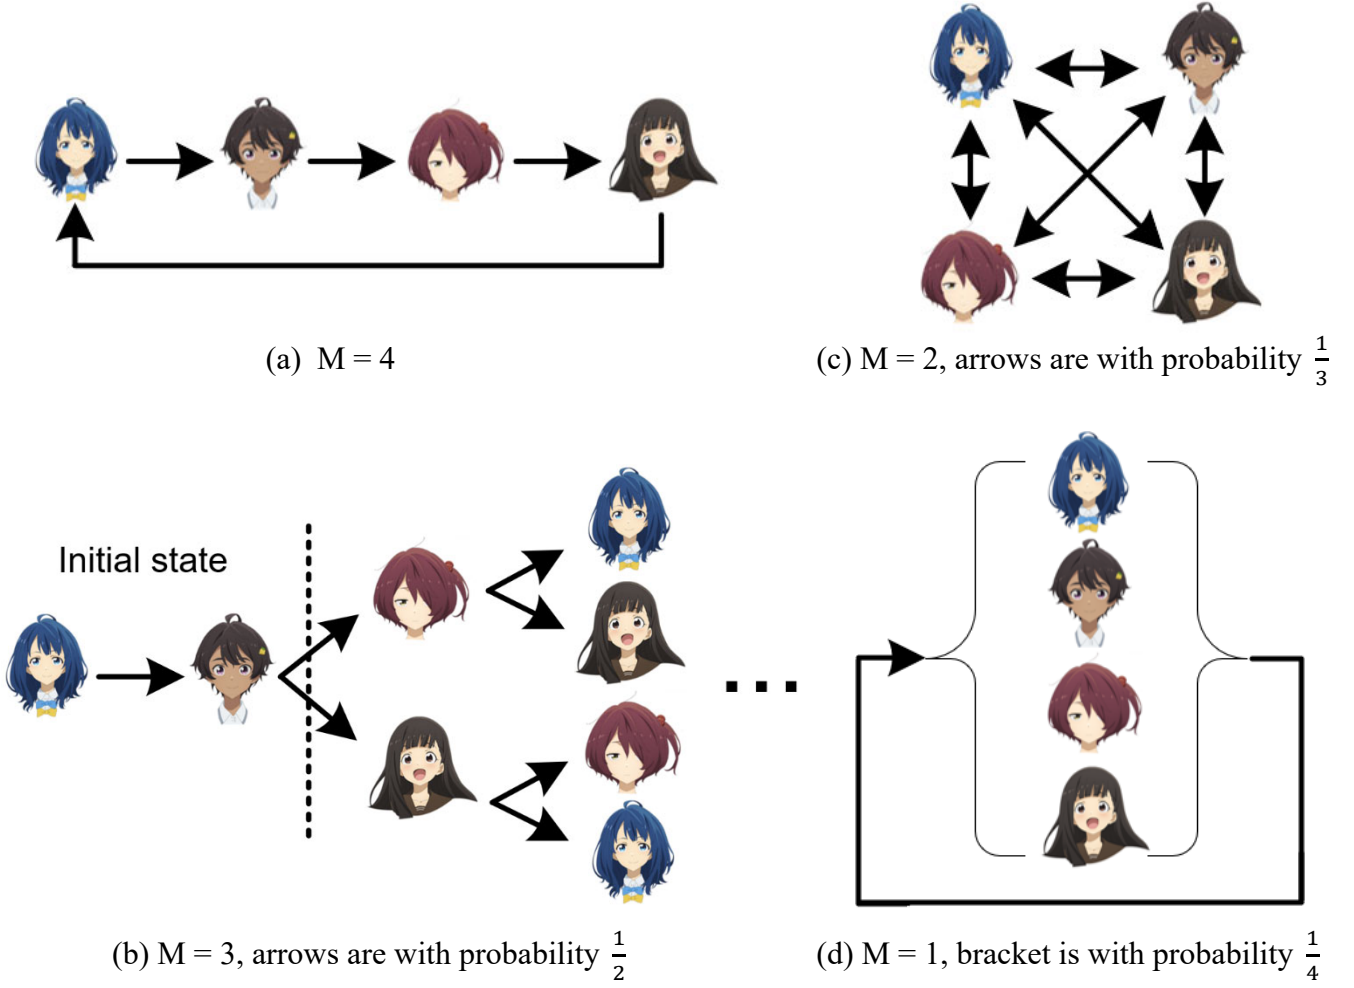

Fig. 3. The design example of $M = 1 \sim 4$ for the $N = 4$ RIS logic
4. Fig. 3 and 4 show the correct and faulty design examples for the RIS guideline **Non-repetitive**. Notice that, the heroine series in the M = 4 case is not random, and there is no faulty design in the M = 1 case.